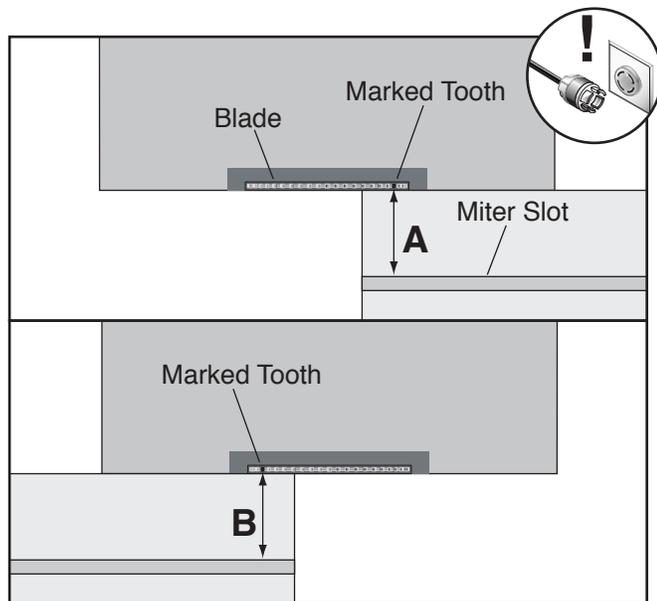

Figure 156. Measuring distance between miter slot and blade at each end of sliding table.
4. Move sliding table all the way forward, and measure distance “A” shown in **Figure 156**, which is between marked blade tooth and edge of sliding table miter slot.
5. Rotate blade 180°, move sliding table all the way back, then measure distance “B” shown in **Figure 156**.